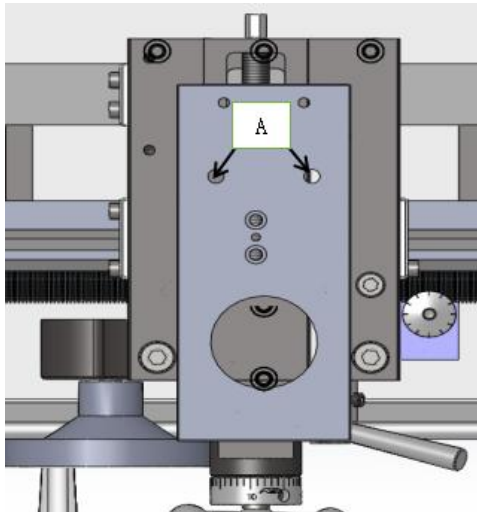

Fig. 36
2. Loosen knurled screw (B, Fig.36) and open the sliding fingers. (C, Fig.31) until the steady rest can be moved with its finger around the workpiece. Secure the steady rest in position.
Lubricate two oil ports (A , Fig. 36) with 20W machine oil once daily.